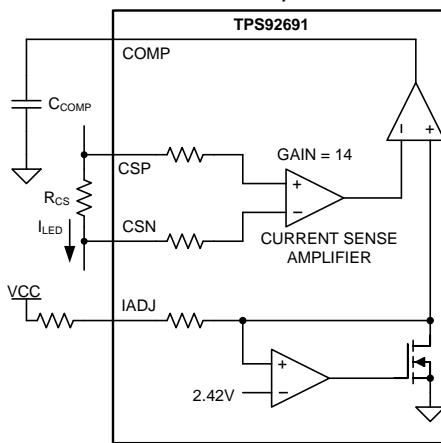
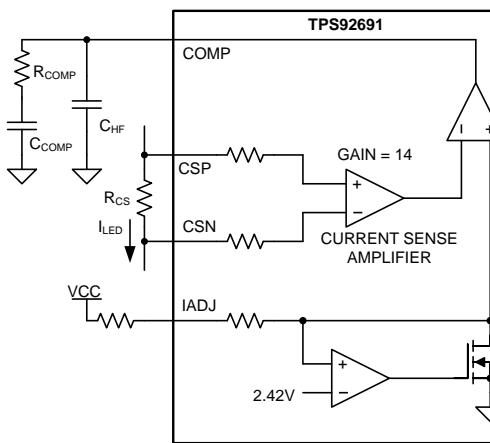

Figure 30. Integral Compensation
Figure 31. Proportional-Integral Compensation
The feedback transfer function includes the current sense resistor and the loop compensation of the transconductance amplifier. A compensation network at the output of the error amplifier is used to configure loop gain and phase characteristics. A simple capacitor, C_{COMP} , from COMP to GND (as shown in Figure 30) provides integral compensation and creates a pole at the origin. Alternatively, a network of R_{COMP} , C_{COMP} , and C_{HF} , shown in Figure 31, can be used to implement proportional and integral (PI) compensation and to create a pole at the origin, a low-frequency zero, and a high-frequency pole.